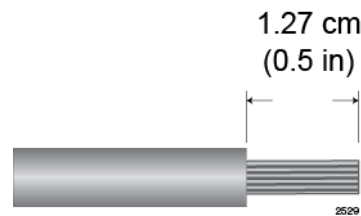

Figure 129. Stripping the Power Wires
1. Prepare adequate lengths of two stranded 8 AWG power wires by stripping them as shown in Figure 129.